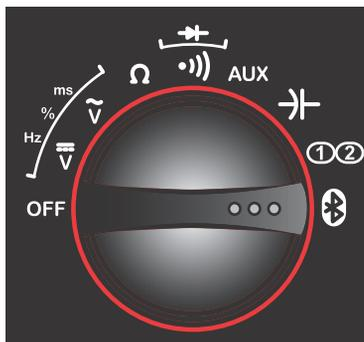

Figure 14-3 Rotary switch Remote Functions setting
5. With Bluetooth Discovery enabled, turn the M2 Scope/Meter Rotary Switch to the Remote Functions position (Figure 14-3).